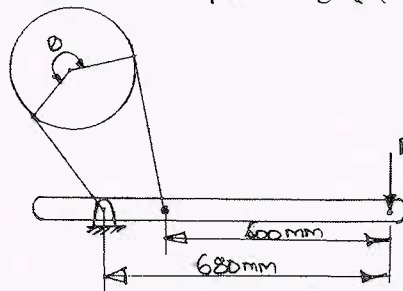

Fig. Q8(b)
b. A simple band brake is required to transmit a torque of 100 kg-m. The brake drum diameter is 400 mm, $\mu = 0.25$. Find the effort required to obtain braking in clock-wise direction. Design the band and the lever. Take $\theta = 270^\circ$. [Refer Fig. Q8(b)] (08 Marks)